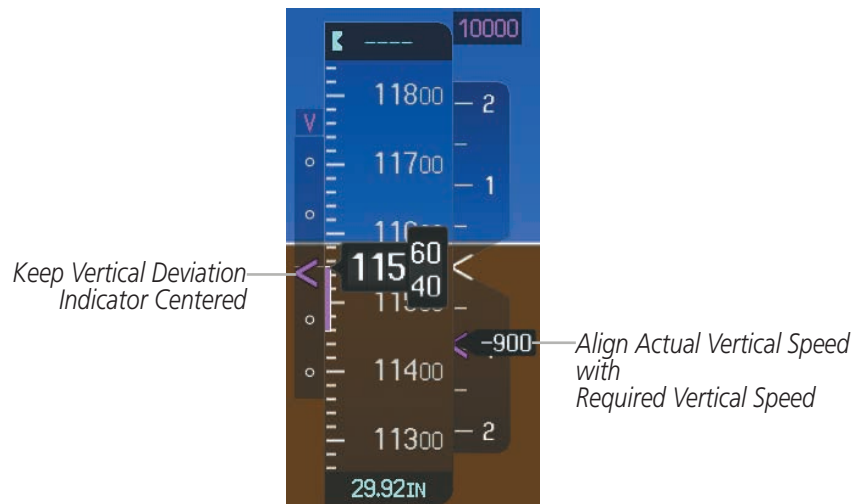

Figure 5-195 VDI & RVSI Showing Correctly Established Descent
- 16) Upon reaching TOD, a descent vertical speed is established by placing the VSI pointer in line with the RVSI as shown in Figure 5-195 .